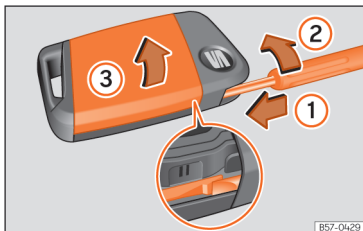

Fig. 49 Vehicle key: opening the battery compartment.
- Insert a flat blade screwdriver into the vehicle key, through the outer guide of the emergency key, approx. 1 cm in the direction of the arrow >>> Fig. 49 ①.
- Turn the screwdriver clockwise until the cover opens >>> Fig. 49 ②
- Open the cover in the direction indicated by the arrow >>> Fig. 49 ③ and remove it >>> ①.